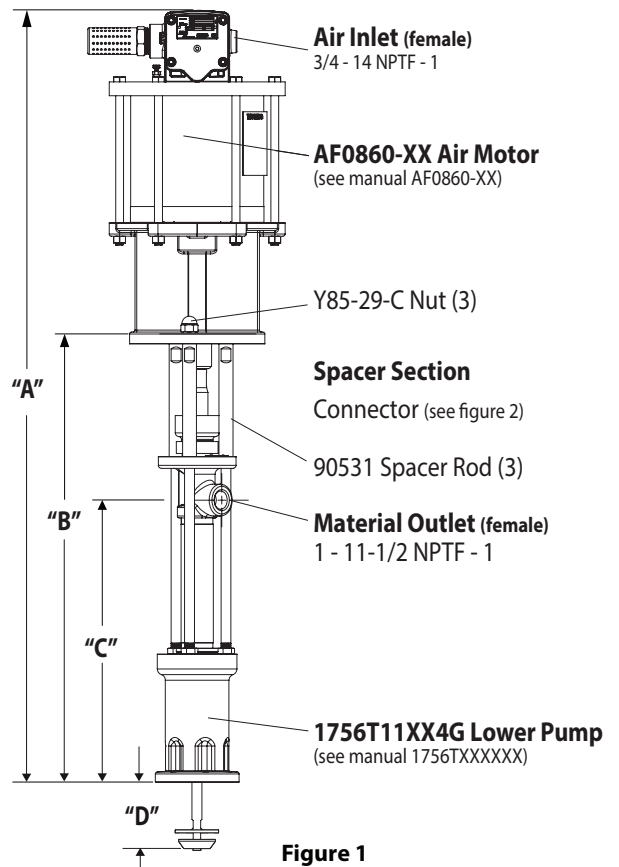

Figure 1
2. Remove the three (Y85-29-C) nuts from the three (90531) spacer rods (see figure 1).